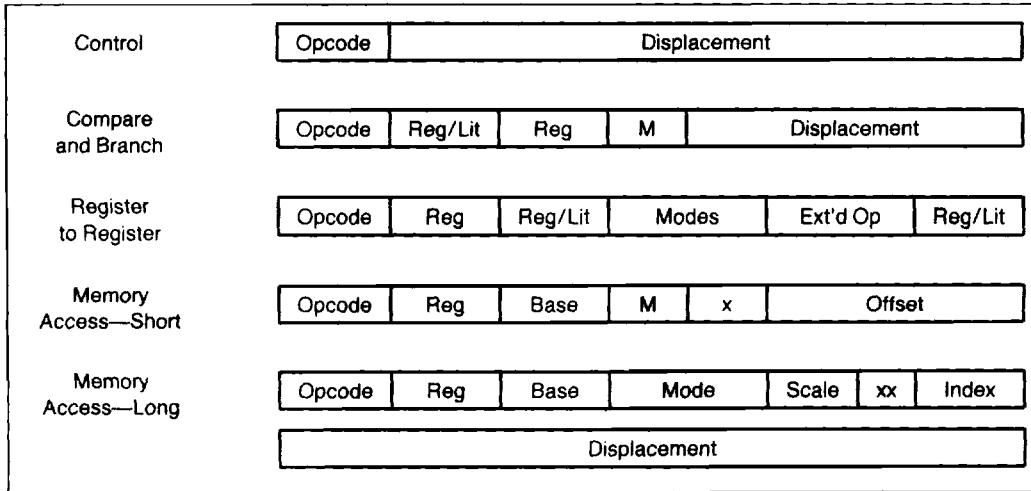

Figure 3. Instruction Formats
**4. Simple Instruction Formats.** All instructions in the 80960MC are 32-bits long and must be aligned on word boundaries. This alignment makes it possible to eliminate the instruction-alignment stage in the pipeline. To simplify the instruction decoder further, there are only five instruction formats and each instruction uses only one format. (See Figure 3.)